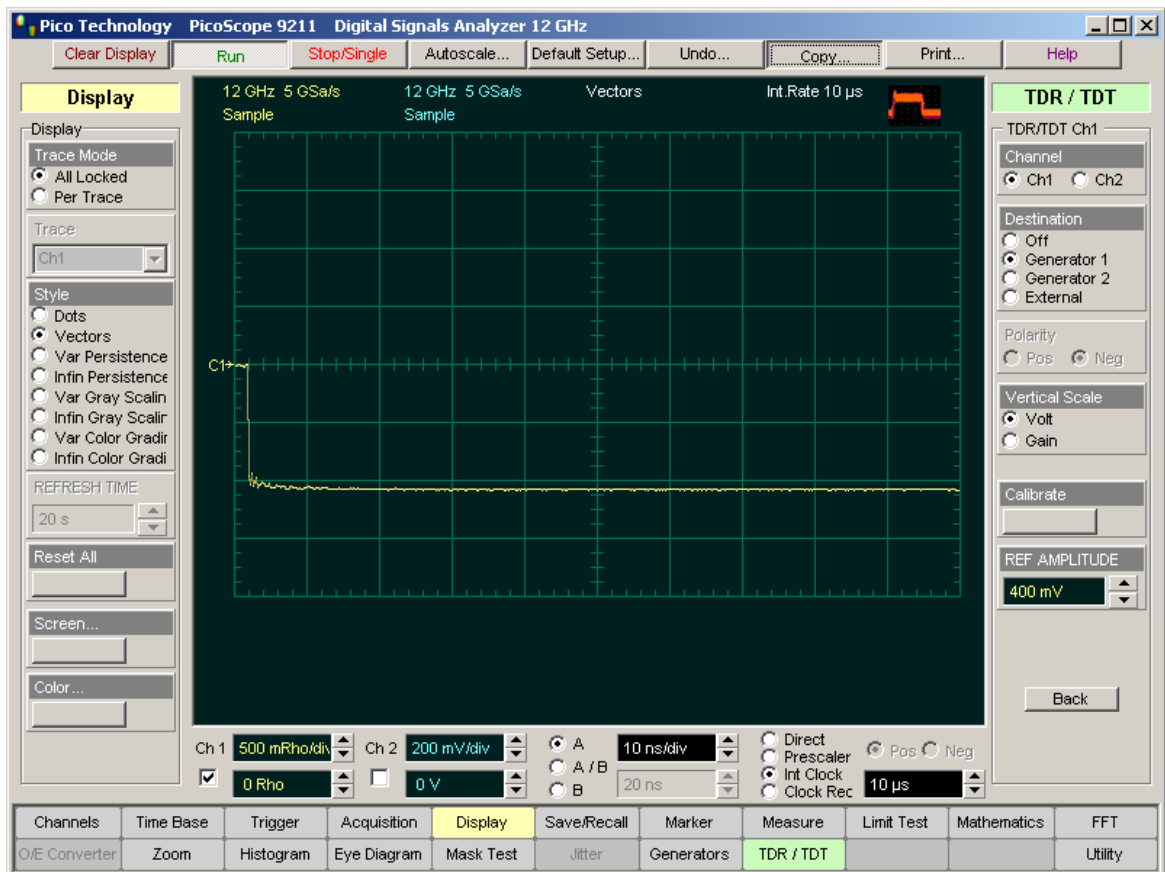

Figure 2
8. Click **Generator 1** in the **Destination** menu. See Figure 2.